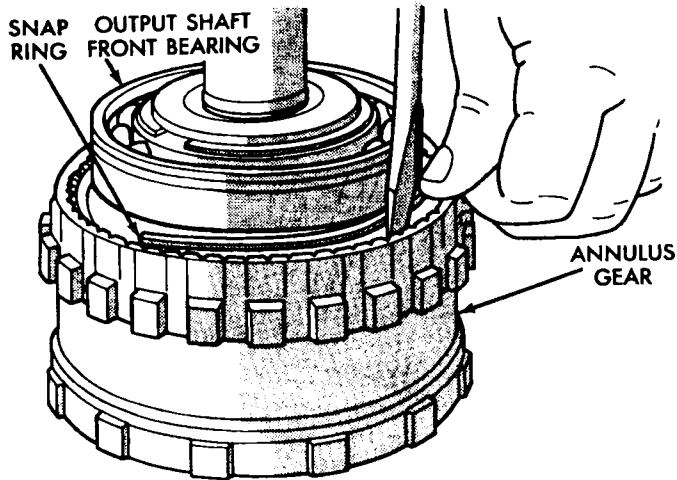

Fig. 45 Annulus Gear And Snap Ring Installation
(1) Soak direct clutch and overdrive clutch discs in Mopar ATF Plus before installation. Also lubricate geartrain components with ATF Plus during reassembly.
(2) Install new pilot bushing and clutch hub bushing in output shaft if necessary (Fig. 45). Lubricate new (or old) bushings with petroleum jelly.
(3) Install front bearing and bearing snap ring on output shaft (Fig. 45)
(4) Align and install annulus gear on output shaft (Fig. 45).
(5) Install annulus snap ring (Fig. 45).